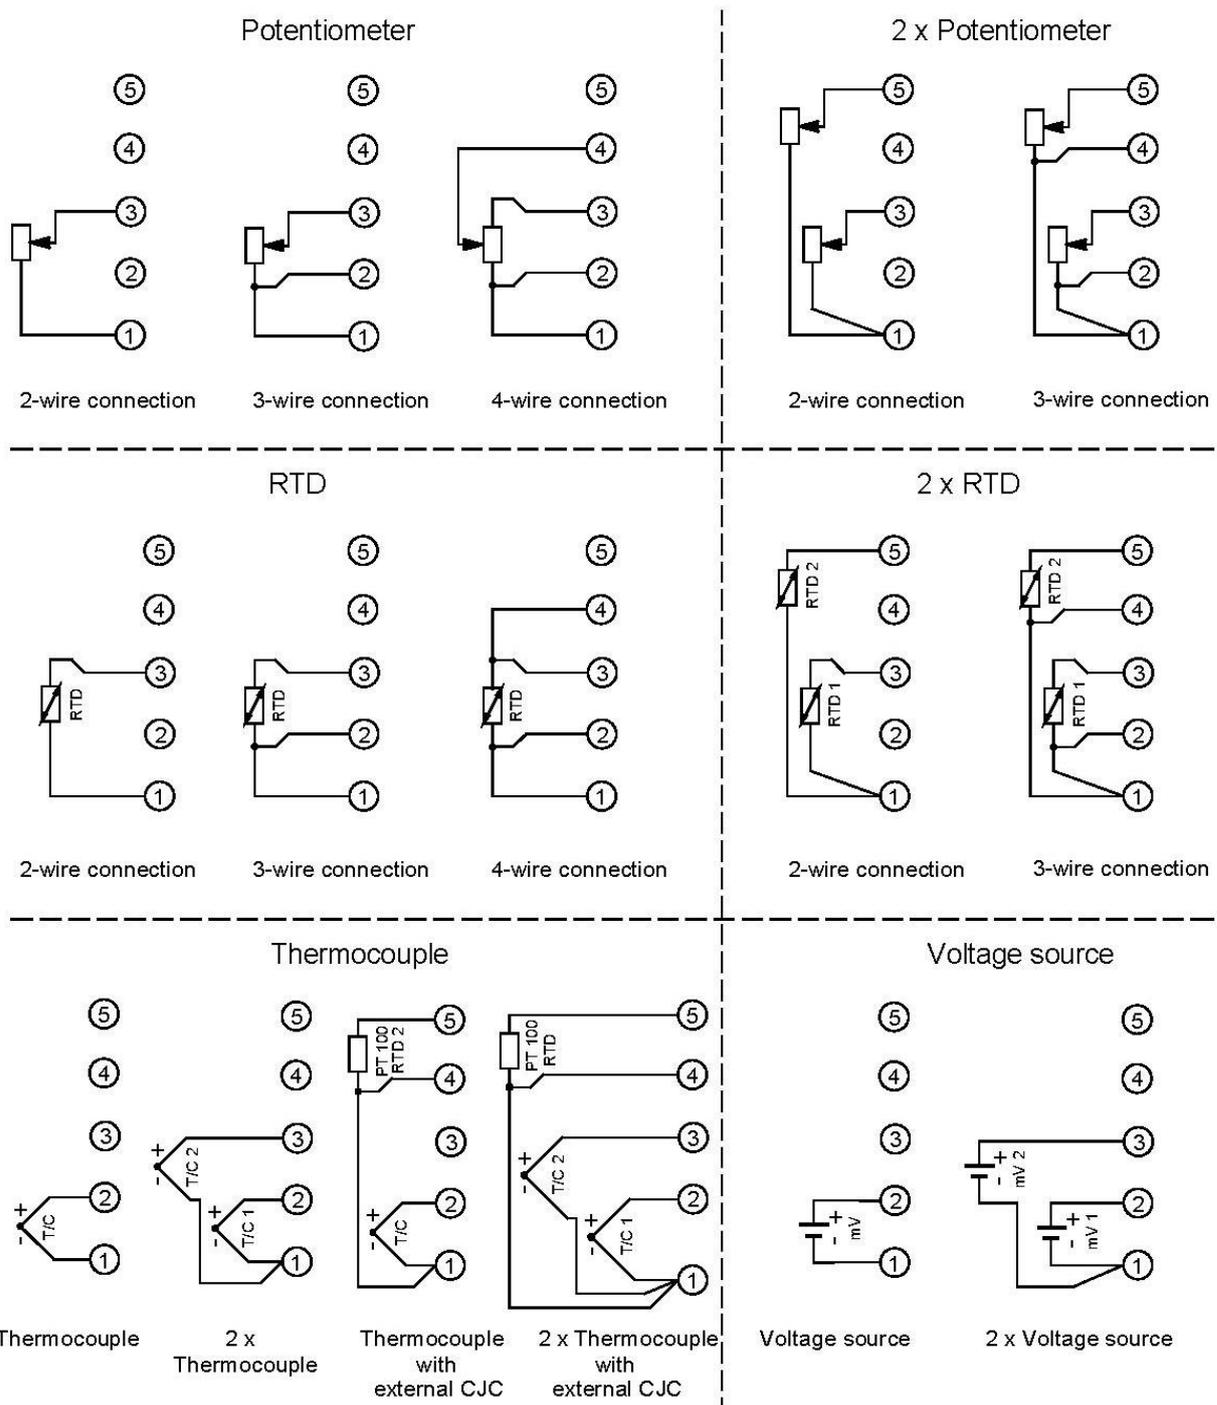

Figure 2. Methods of connecting sensors, potentiometers and voltage sources
- type of the mathematical function processing the signal from two sensors (2x RTD 2-wire connection, 2x RTD 3-wire connection, 2x thermocouple, 2x thermocouple with external CJC (see → Figure 2. Methods of connecting sensors, potentiometers and voltage sources)):